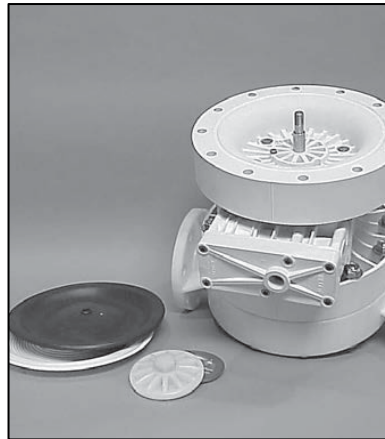

Figure 9b
2) The outer piston, diaphragm and inner piston separate from the shaft which remains connected to the opposite side diaphragm assembly (Figure 9b). Repeat disassembly instructions for the opposite liquid chamber. Inspect diaphragm assembly and shaft for signs of wear or chemical attack. Replace all worn parts with genuine Wilden parts for reliable performance.